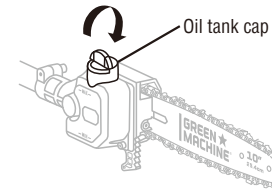

Fig.5A
2. Place the pole saw upright to ensure that the oil tank cap is facing upwards. Unscrew the oil tank cap and remove it. (Fig. 5A)